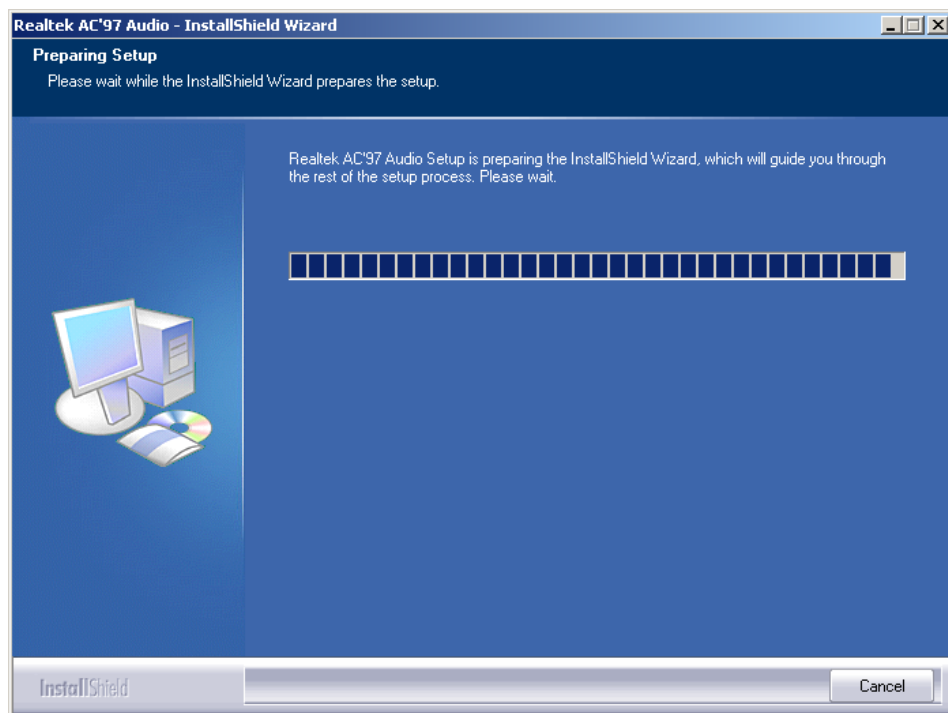

Figure 6-20: Audio Driver Install Shield Wizard Starting
Step 2: The **Realtek AC'97 Audio Setup** prepares the **InstallShield Wizard** (**Figure 6-20**).